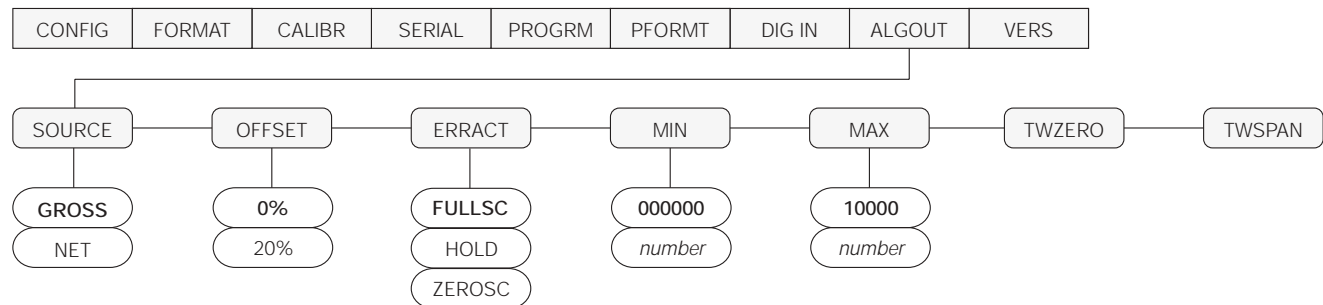

Figure 7-4. Analog Output Menu
1. Enter setup mode and go to the ALGOUT menu (see Figure 7-4).